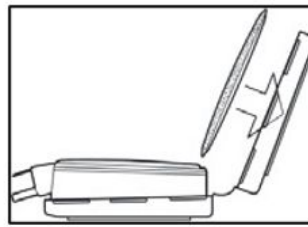
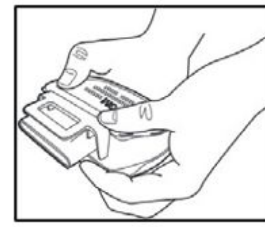

Fig.7
Fig.8
- Orient a filter in the other half of the filter retainer so the shape of the filter aligns with the shape of the filter retainer and the printed side of the filter faces down (Fig. 7). Wrap the opposite end of the retainer around the cartridge and secure by pressing down on all four corners of the cartridge/filter retainer (Fig. 8).